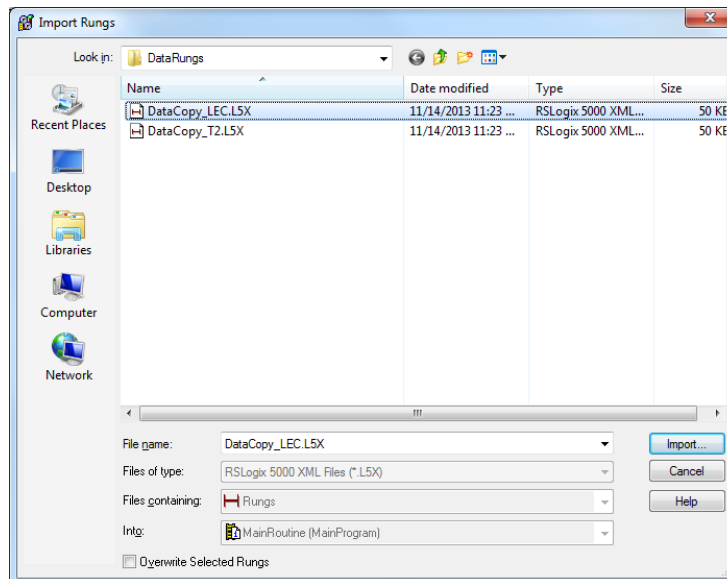

Figure 8 - Mecco Supplied Logic Rungs
9. Navigate to the USB stick, select the file for the marker type you are configuring and click **Import**. (**DataCopy\_LEC.L5X** is selected for laser markers; **DataCopy\_T2.L5X** is selected for dot-peek markers.) In Figure 8, logic for a laser marker is selected.